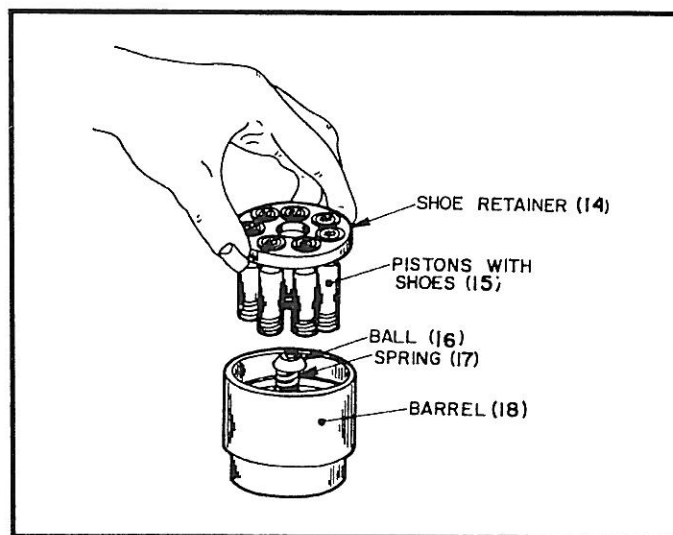

Figure 4. Rotating Group Disassembly (517474).
Place the pump in a horizontal position and remove the rotating group by turning shaft (1) slowly while pulling the cylinder barrel (18) from housing. Place assembly on a clean soft surface (to prevent damage to cylinder barrel/wear plate face) as shown in Figure 4.
See Figure 4. Lift off shoe retainer (14) with piston/shoe assemblies (15), remove fulcrum ball (16) and shoe retainer spring (17).
See previous Figure 4. Place the cylinder barrel (18), wear surface down, on a clean cloth. Place the shoe retainer spring (17)